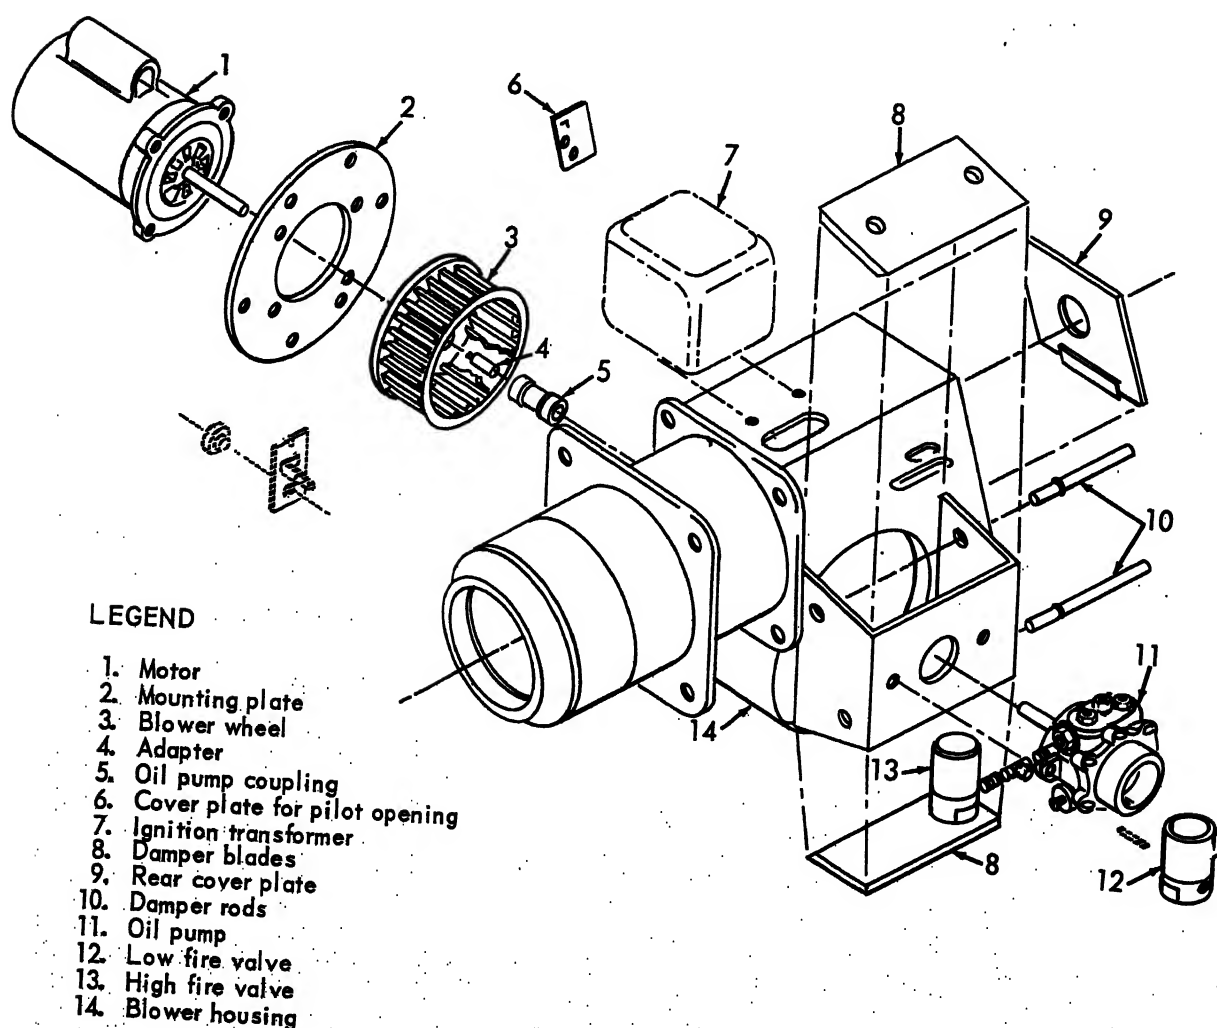

FIGURE 38. BLOWER DISASSEMBLY
b. Disassembly. Refer to Fig. 38 and disassemble the blower.
- d. Air damper positioning. Position the air damper (Fig. 38) to the control linkage in such a manner that in the open position, the lower end of the control linkage will be nearest the blower housing.
- e. Reassembly. Refer to Fig. 38 and reassemble the blower.